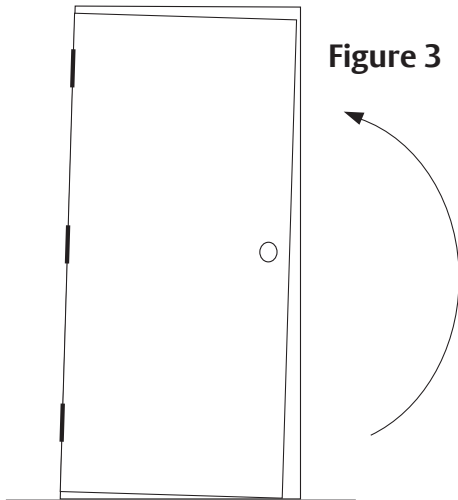

Figure 3
Frame openings which are wider at the base than at the head will cause wider clearance at the lower lock edge and at the top as shown in Figure 3. This condition can be improved by placing shim (B) between the jamb and door hinge reinforcements respectively at the bottom hinge leaves.